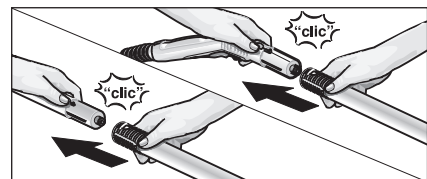

Figure 3: Attaching the extension pieces
- If required, use the extension tubes (G1). Attach one or both extension pieces (G1) to the steam gun (C1) (see Figure 3). Then, push the desired accessory part (D1, E1, F1, H1) onto the free end of the extension tube.